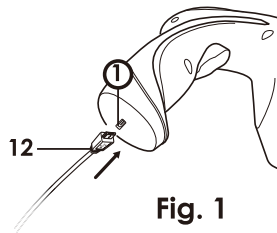

Fig. 1
Insert the charging Cord (12) into the Charging Cord Input (1) and plug the Charging Cord into a power outlet. (Fig. 1)